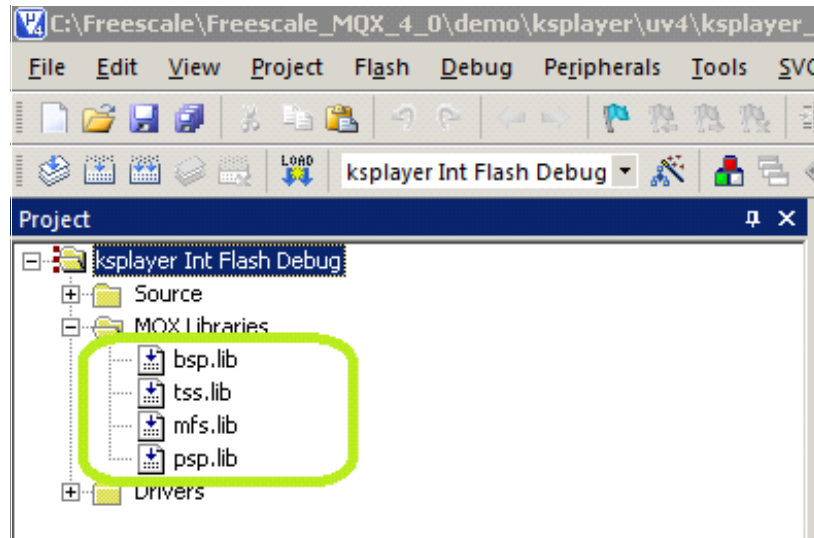

Figure 6. Import the MQX libraries to the player project
9. Now open the Player project. If you can see the libs already imported under the “MQX Libraries” group (See Figure 6), you can skip that step.
11. Import the “bsp”, “tss”, “psp” and “mfs” lib files: from the debug location which means the “debug target”. See Figure 6.